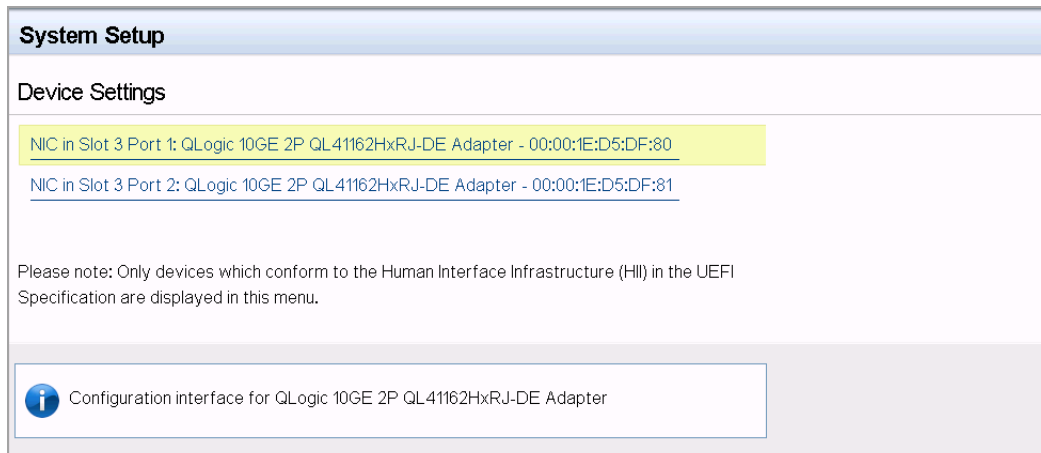

Figure 5-2. System Setup: Device Settings
3. In the Device Settings window (Figure 5-2), select the 41xxx Series Adapter port that you want to configure, and then press ENTER.